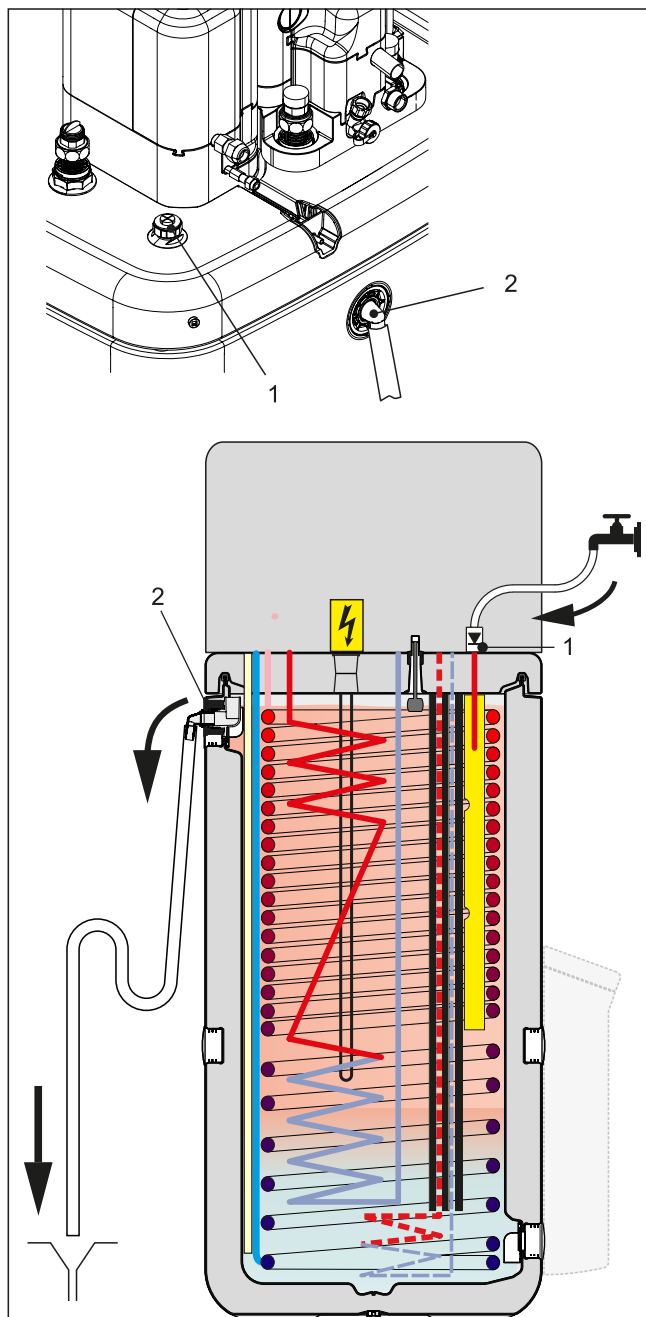

Fig. 7-1 Filling the buffer tank - without connected DrainBack solar system
- 1 Connect the **filling hose** with non-return valve (1/2") to the **"Solar - inflow"** connection (Fig. 7-1, item 1).
- 2 Fill the storage tank of the indoor unit **until water escapes at the overflow connection** (Fig. 7-1, item 23).
- 3 Fill the storage tank of the indoor unit **until water escapes at the overflow connection** (Fig. 7-1, item 23).